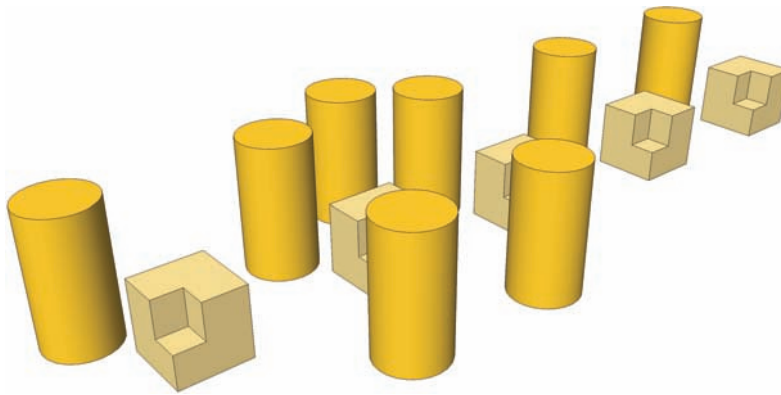

Fig. 3-19: Editing the Cylinder component will edit all similar components, regardless of the instance in which they are located.
3. Push/Pull the top of the Cylinder another 5'. All versions of the Cylinder component will be adjusted (Fig. 3-19). Exit the component instance and return to the general modeling space.